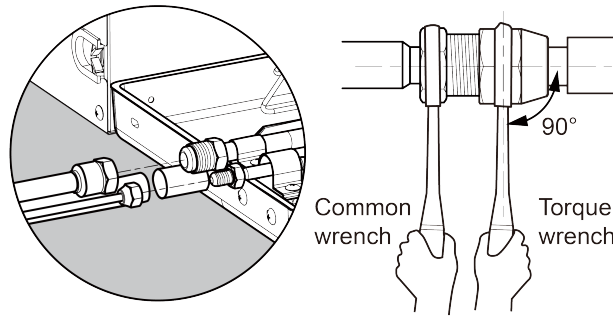

Fig.4.4.3
- (1) Remove pipe cover and pipe plug.
- (2) Direct the flared part of copper pipe to the center of screwed joint. Twist on the flared nut tightly by hand, as in Fig.4.4.3 (Make sure indoor pipe is correctly connected. Improper location of the center will prevent flared nut from being securely twisted. Thread of nut will get damaged if the flared nut is twisted forcibly).
- (3) Use torque wrench to twist on the flared nut tightly until the wrench gives out a click sound (Hold the handle of wrench and make it at right angle to the pipe. as in Fig.4.4.3).